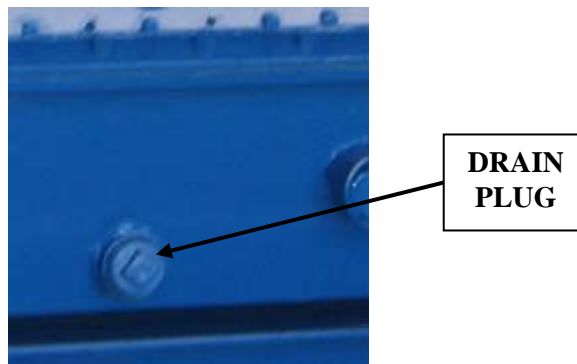

Fig. 1-4 Power end drain plug
5. Drain all condensation from the power frame (Figure 1-4).
1. Drain the old lubricant every 4 months or 1000 operating hours, whichever occurs first. The drain plug is located at the rear of the power frame (Figure 1-4).